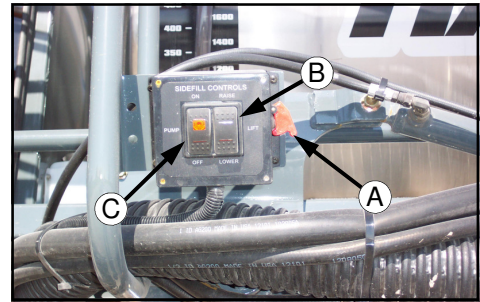

FIG 66-1
**INDUCTOR OPERATION-** With the engine running and the parking brake set, flip the lock switch up (fig.66-1,item A). Lower the inductor assembly with the inductor control box switch (fig. 66-1, item B). If filling with the suck-on attachment, leave the engine running. If filling with the push-on attachment, turn the engine off.
\*To activate “suck-on” pump, flip the inductor control switch up (fig. 66-1, item C). This will start the pump. Flip switch down when filling is complete.